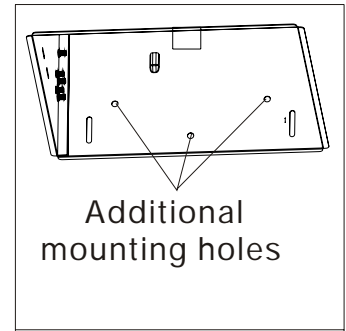

Fig.10
5. Additional mounting holes are provided for installations where access from above is inconvenient or not possible. Nail or screw housing directly to joists or framing.(Fig.10)